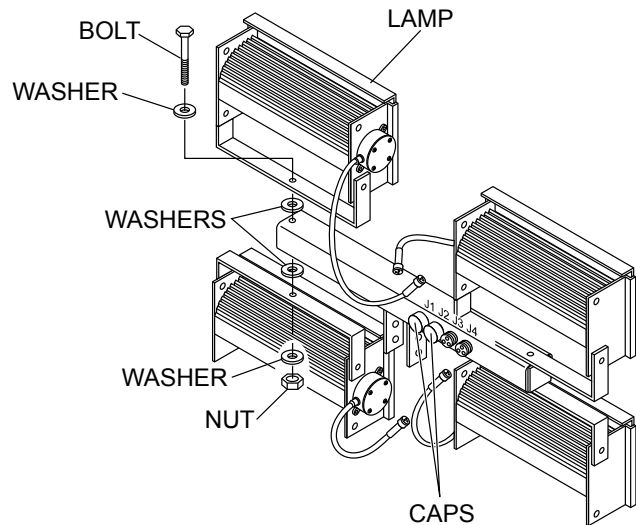

Figure 5. Lamp Removal
3. Remove the four lamps from the T-bar by removing the bolts (with washers and nuts) holding each lamp in place. See Figure 5. Keep the removed lamps and the associated hardware together and store in a safe place, making sure that the lamps are properly protected to prevent breakage.
4. Cover receptacles J1 and J2 (innermost) with caps as they will not be used. See Figure 5.